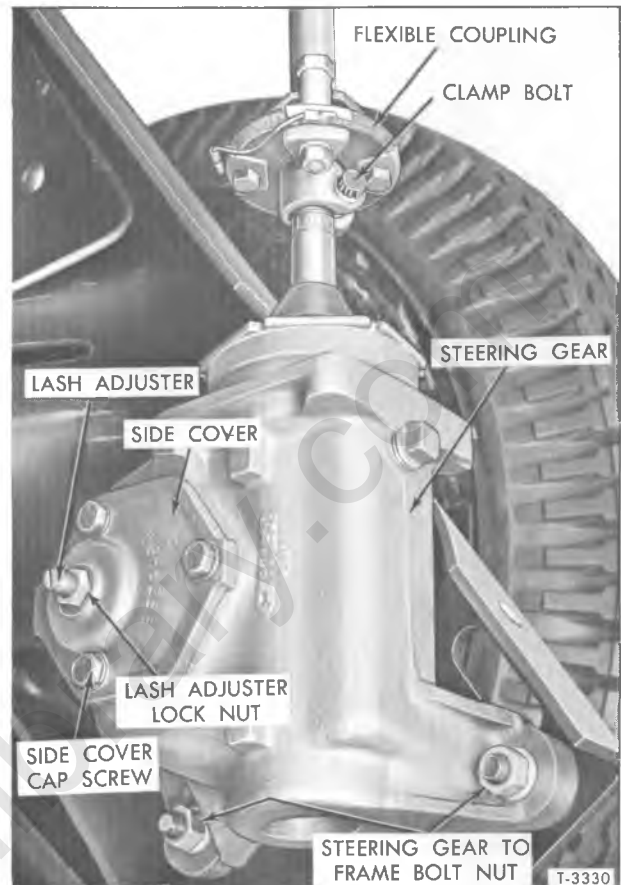

Figure 6—Steering Gear and Shaft (with Flexible Coupling)
2. Scribe an alignment mark on steering gear worm shaft and clamp yoke or coupling on steering gear lower or intermediate shaft (fig. 6).
3. Remove bolt attaching lower or intermediate shaft clamp yoke or coupling to steering gear worm shaft (3).
**NOTE:** When removing flexible coupling-type joint (fig. 6), remove the two bolts and nuts which secure lower clamp plate to balance of rag joint assembly.
3. Mark clamp yoke (19) or coupling and steering gear worm shaft (20) to insure installation in the same relative position (figs. 6 and 11).
6. Remove screws which attach steering column seal retainer and seal (2) to cab floor.
7. Remove bolts which attach steering column (5) to supports and braces, then pull housing off steering shaft and remove from vehicle.